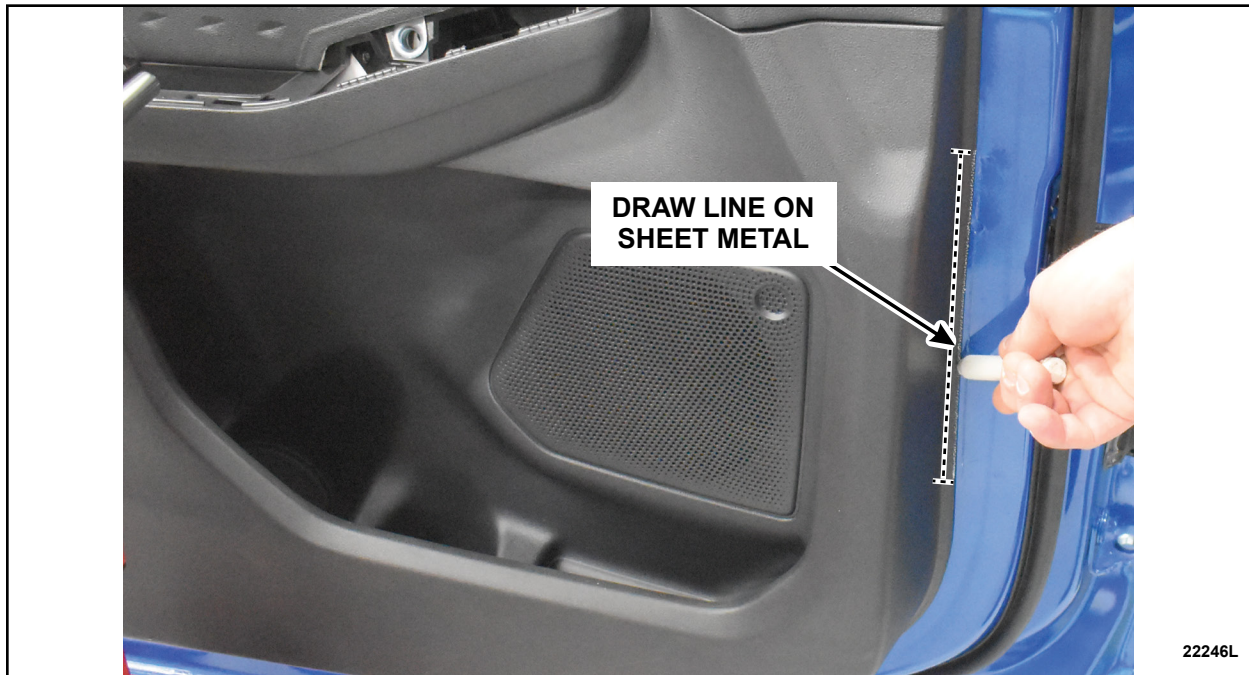

FIGURE 5
1. Using a non-permanent marking tool, such as a wax pen, chalk, pencil etc, draw a line on the door sheet metal, marking the edge of the door panel for later reference. See Figure 5.
11. Find the line inside each square, from Figure 5, that was drawn on the sheet metal before removing the door panel. Make a mark on the door latch side of the line, making sure it is at least 10 mm (0.39 inch) away from a spot weld or a weld separation lines. Using a 5mm drill bit, center punch and drill out both marked locations as shown in Figure 13.